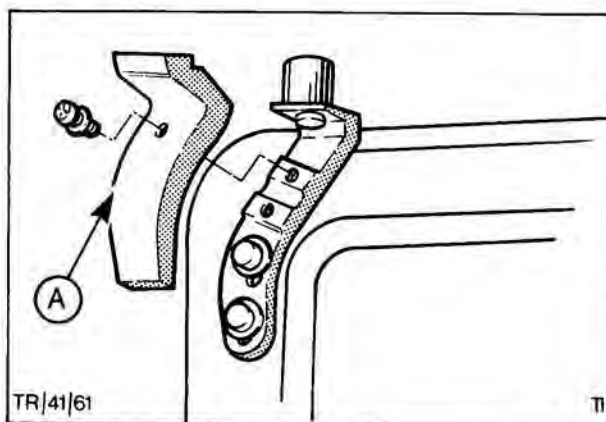

Fig. 47. Upper guide arm roller and shroud (A)
1. Remove upper guide shroud, Fig. 47 'A'.